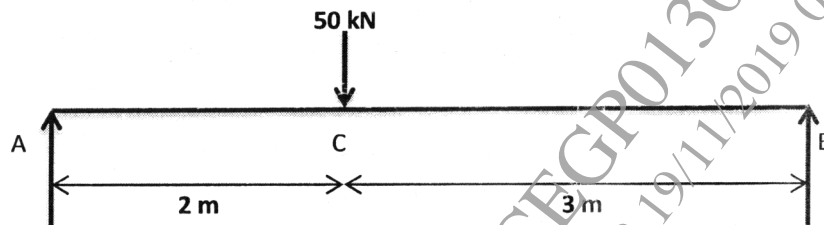

Fig. 1
1. (a) Determine the deflection at the mid span of a simply supported beam shown in fig. 1 by using Conjugate beam method. Take constant value of EI. [6]